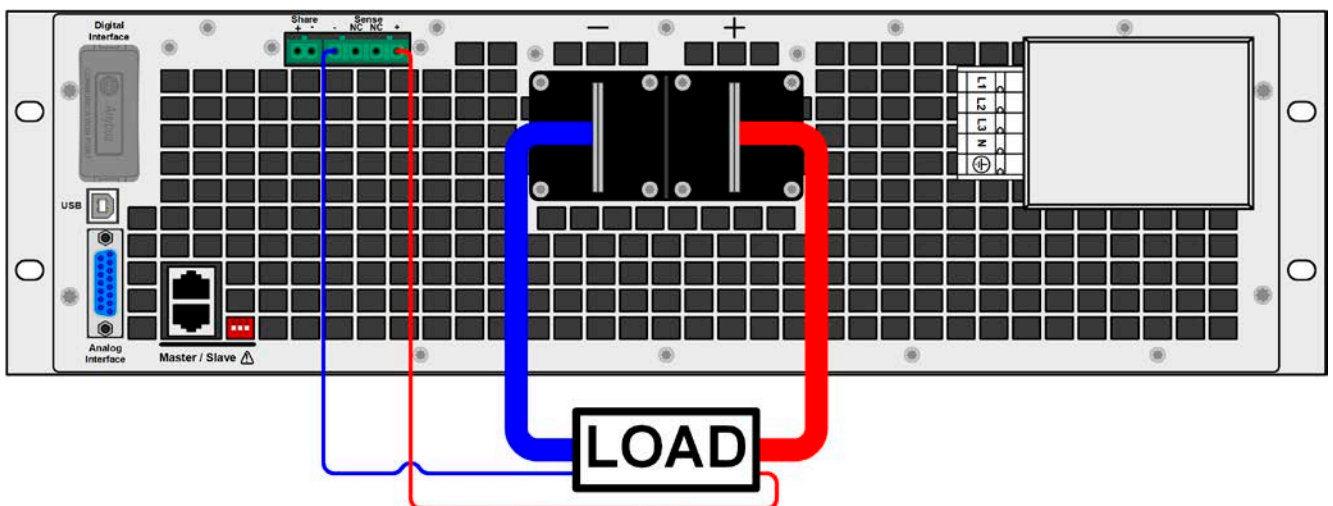

Figure 10 - Example for remote sensing wiring
- Remote sensing is only effective during constant voltage operation (CV) and for other regulation modes the sense input should be disconnected, if possible, because connecting it generally increases the oscillation tendency
- The + sense cables must be connected to + on the load and - sense to - at the load, otherwise the sense input of the device can be damaged. For an example see Figure 10 below.